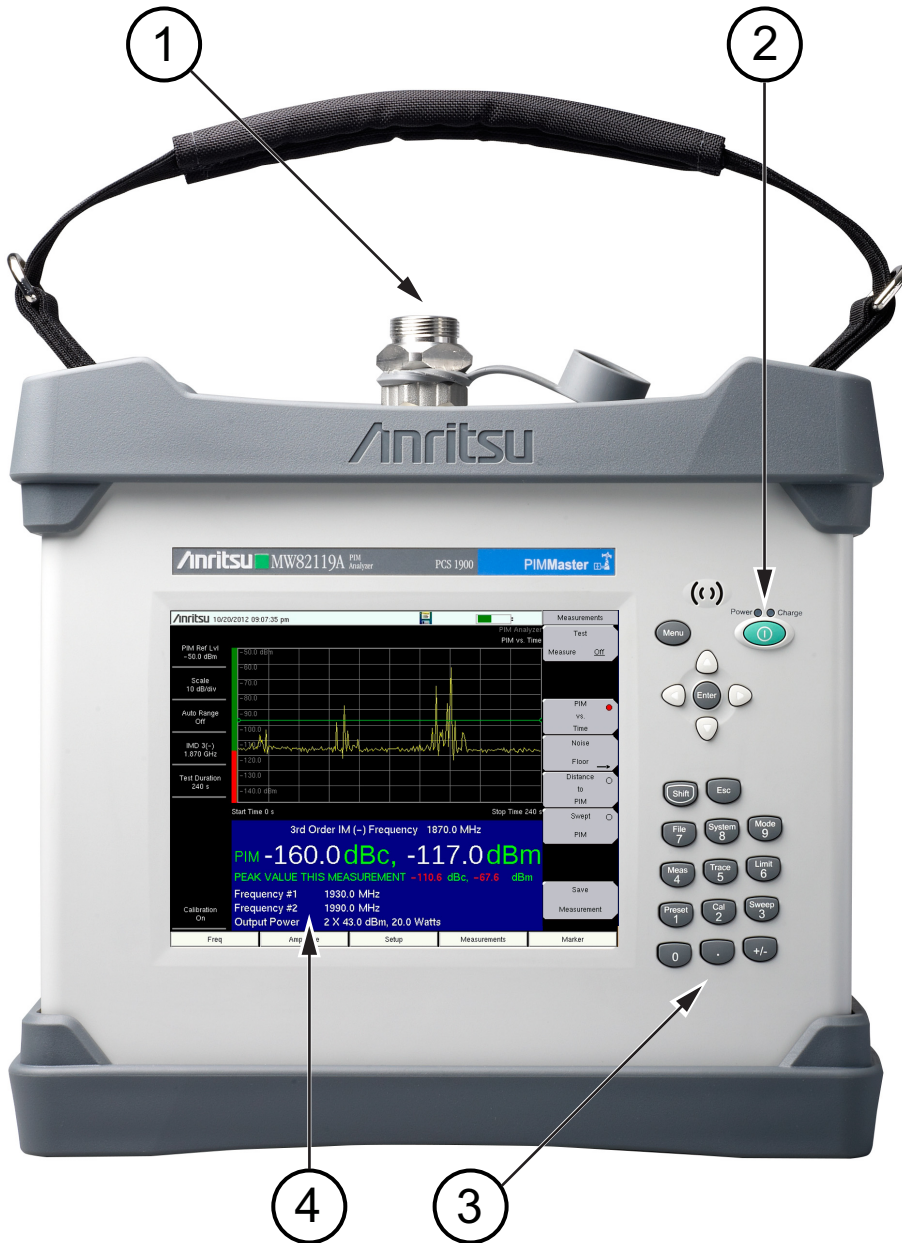

Figure 2-1. MW82119A PIM Master Front Panel
(item 1 in Figure 2-1)
(item 2 in Figure 2-1)
(item 3 in Figure 2-1)
(item 4 in Figure 2-1)
Features not shown in Figure 2-1**Battery Compartment**